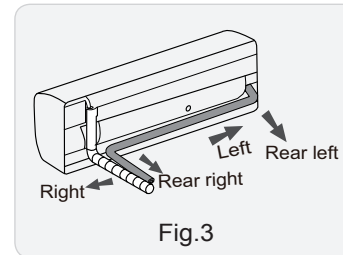

Fig.3
(1) The pipe can be led out in the direction of right, rear right, left or rear left. (As show in Fig.3)